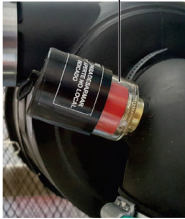

FIGURE 10.1
- (1) Check the oil level and add oil if necessary before switching on the compressor. The oil level must be between the maximum and minimum marks of the oil gauge dipstick.
- (2) Have pressure switch, manometer(s) and safety valve calibrated at a local technical standard and legislation accredited body. This operation must be performed in a device that is not connected to the bank.
- (3) If it is obstructed, replace it before the recommended time in the table.
- For MSW 60 Fort compressor: Inspect the restriction and if indicate airflow abstruction, change the filter elements. (Figure 10.1)
- (4) Have na electrician inspect electrical connections to retighen if necessary and verify the integrity of the electric wires.
- (5) Check the alignment between the sheave and flywheel, belt tension and check state of use.